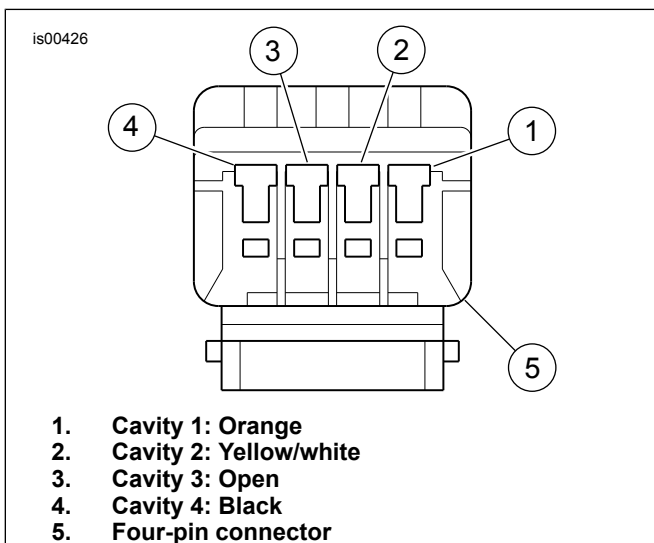
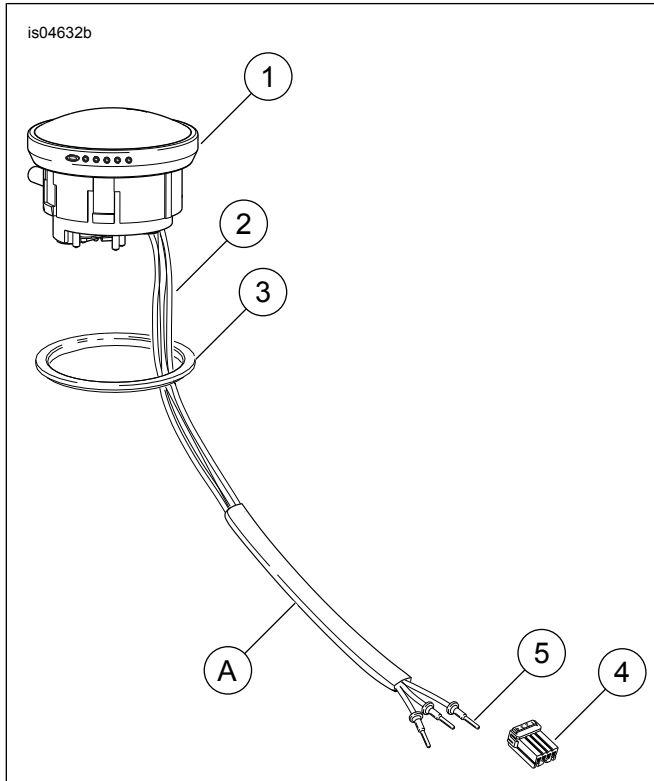

Figure 2. Four-Pin Connector (viewed from wire end)
Figure 3. Service Parts: LED Fuel Gauge Kit
See Figure 3 and Table 1.
2. See Figure 3. Press the pin on the socket terminal side of the connector, and pull apart the pin and socket halves.
4. See Figure 3. Remove the fuel gauge by firmly grasping and carefully pulling up (do NOT twist) on the gauge just far enough to free it from the fuel tank. **Carbureted Models:** Disconnect the two sending unit connectors. Feed the conduit and two wires up through the tube while removing the gauge. Remove and discard the fuel gauge. **Fuel-Injected Models:** Feed the conduit and three wires up through the tube while removing the gauge.
2. See Figure 3. Assemble the new gasket (3) to the LED fuel gauge (1) from the kit. Install the gasket so the flat side contacts the edge of the gauge.
3. While carefully lowering the fuel gauge, feed the wire harness (2) down into the drain tube until the three short (Orange, Black, Yellow/White) wires exit the hole at the bottom of the fuel tank. Gently pull the wires to remove slack while installing the gauge to the fuel tank. Do not twist the gauge during installation. Hold the gauge firmly and press down until it snaps into place.
4. See Figure 2. Install three wires (1, 2, and 4) into the correct cavities of the four-pin connector from the kit. Refer to the AMP MULTILOCK ELECTRICAL CONNECTORS, INSTALLING SOCKET/PIN TERMINALS section in the Service Manual.